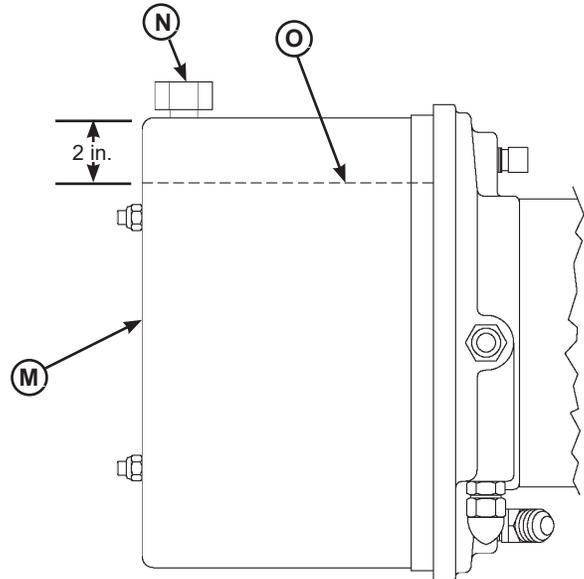

Figure 28
- Check reservoir fluid level (O, see Figure 28):
3. Remove inspection plate (C) and remove breather cap (N).
4. Measure fluid level. The fluid level should be approximately 2 in. (51 mm) from top of reservoir (M) with platform at the below-dock position.